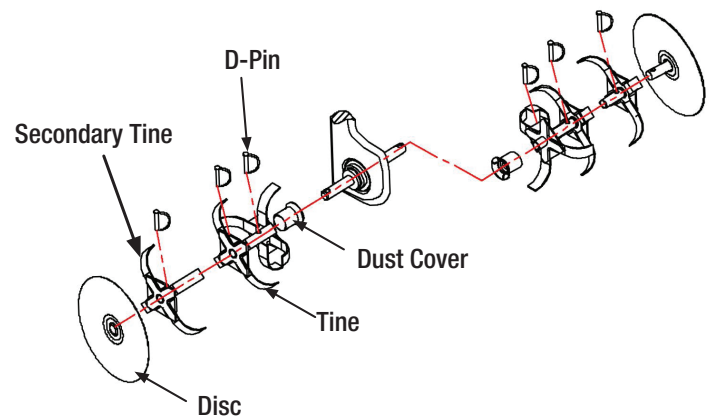

Figure 1-4
- Insert the dust cover, tines, secondary tines, and disc to drive shaft in sequence and lock tines with D-Pin. See Figure 1-4